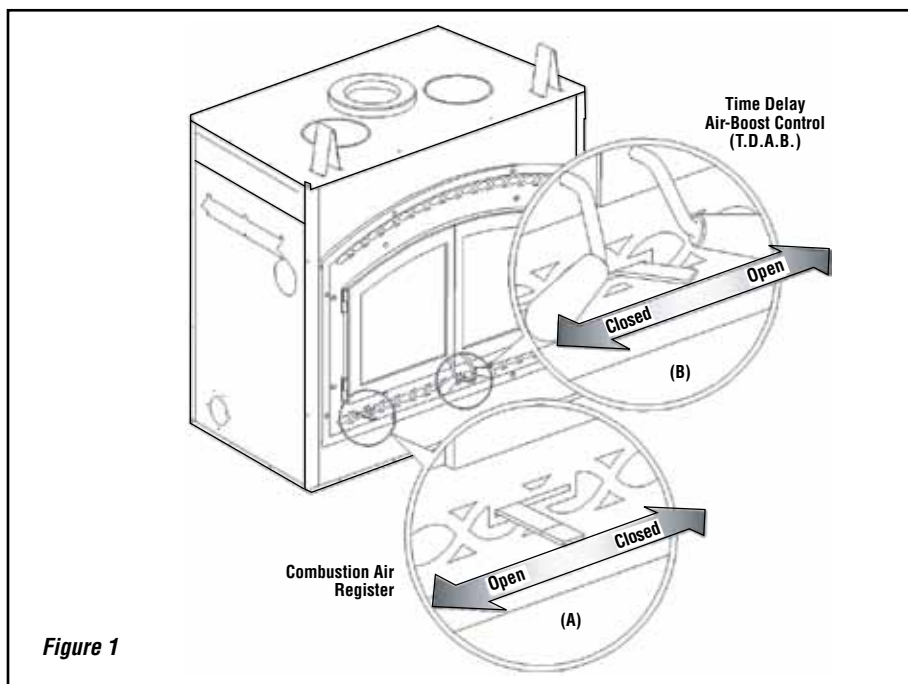

Figure 1
The combustion air control should be opened before opening the doors to minimize the possibility of back draft coming into the room (**Figure 1-A**) More details are available in *Refueling For Best Performance* on **Page 5**.
The register gradually reduces the amount of air injected, allowing for a better start of the fire, whatever the conditions (See sections *Building a Fire* and *Refueling For Best Performance* for proper sequence of operation). This allows you to start the fire, set the primary air control to the desired burn level and the fireplace will automatically adjust itself to that level once the fire is fully established (**Figure 1-B**).
- Completely open the air control level and the T.D.A.B. (Time Delay Air Boost) level. See **Figure 1**.